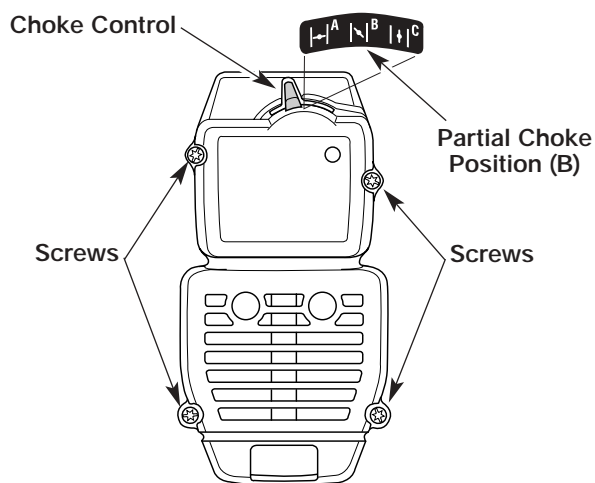

Figure 23
1. Place the choke control in the PARTIAL choke position (B).
NOTE: The choke control must be in the PARTIAL choke position (B) to remove the air filter/muffler cover. See Figure 23.
2. Remove the four (4) screws securing the air filter/muffler cover. See Figure 23. Use a flat blade or # T20 Torx bit screwdriver.
NOTE: The choke control must be in the PARTIAL choke position (B) to install the air filter/muffler cover. See Figure 23.
- Insert the four (4) screws into the holes in the air filter/muffler cover and tighten. See Figure 23. Use a flat blade or # T20 Torx bit screwdriver. Do not over tighten. Do not force.